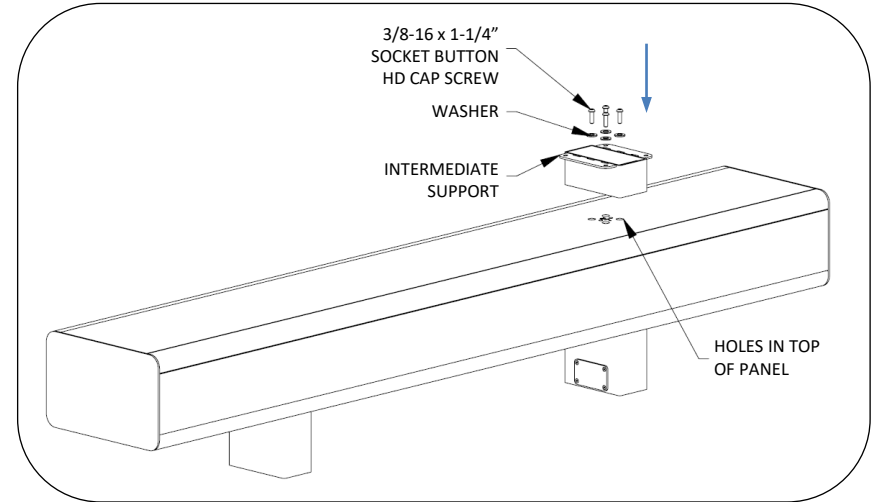

Fig. 3 – Install intermediate support
4. Attach intermediate columns to top of bottom beams using (4) 3/8-16 x 1-1/4" socket button head cap screws and 1-1/16" O.D. washers, see Fig. 3.